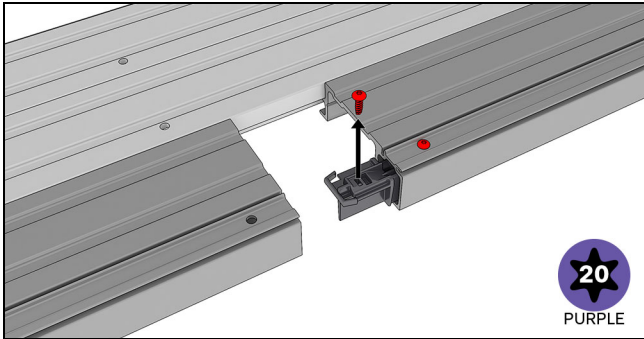

Figure 33
- 4.** Remove the screws from the splice keys. See Figure 33.